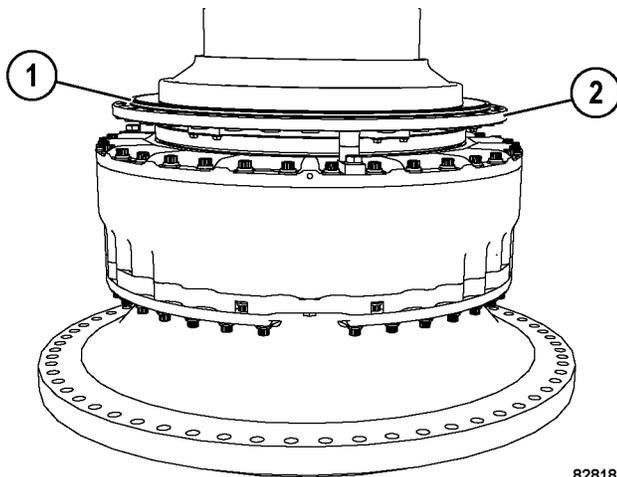

FIGURE 50-46.
3. Install a new O-ring (1, Figure 50-46) onto hub adapter (2). Lubricate the O-ring with clean wheel motor oil.